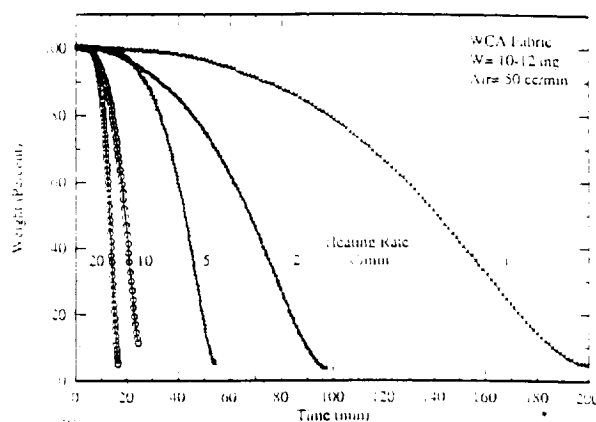

Figure 2: Non-Isothermal Oxidation of WCA - Variation of Weight Loss with Time.
The NIO data can be presented in several ways. Figure 2 illustrates the burn-off (BO) curves which relate the percent of ungasified WCA fabric to oxidation time. Increasing HR shortens the time required to gasify the entire carbon or 50 % of it,  $t_{0.5}$ . When the HR rises from 1 to 20 C/min,  $t_{0.5}$  decreases from 140 to 13.5 min. The empirical relation